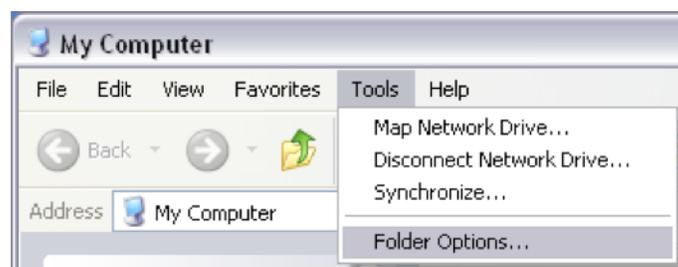

Figure 4.37 Screenshot of accessing the Windows Folder Options from Windows Explorer.
4.4.3.1 The Folder Options for Windows Explorer must be set up so that text files (.txt) can be saved as batch files (.bat). Open an Explorer window by opening any folder (e.g. “My Computer” or “My Documents”). Then click on the “Tools” menu and select “Folder Options...” as seen in Figure 4.37. The “Folder Options” window should pop up.